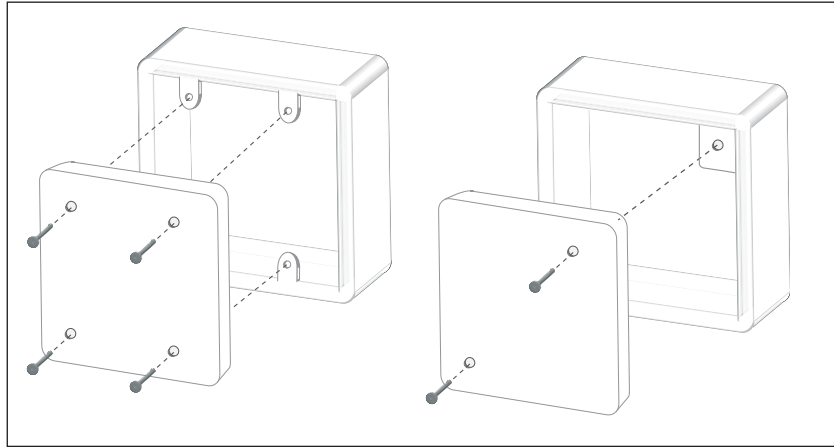

Fig 1. Mounting the Alpha Relay Output Module
4. Drill holes in the fascia plate corresponding to the holes on the mounting box selected (Fig 1).